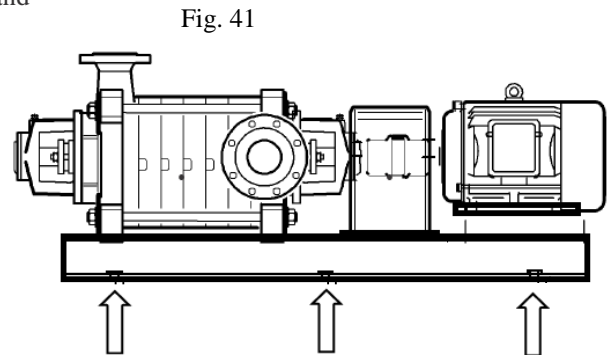

Fig. 41
**1 MONTH AFTER** the installation, make sure that the fastening bolts are correctly locked to the base fig. 41 and also check the suitability of connecting bolts to the flanges; furthermore, check the correct operation of the electric motor and pump assembly, including power input and gland packing leakage.